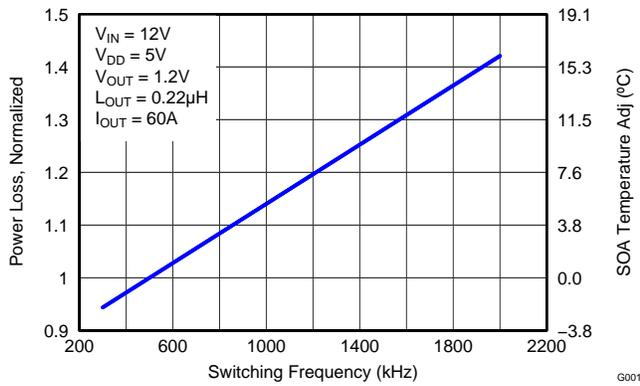

Figure 7. Normalized Power Loss vs Frequency
- Normalized Power Loss for switching frequency \approx 1.08 (Figure 7)
- SOA adjustment for switching frequency $\approx 3.2^{\circ}\text{C}$ (Figure 7)